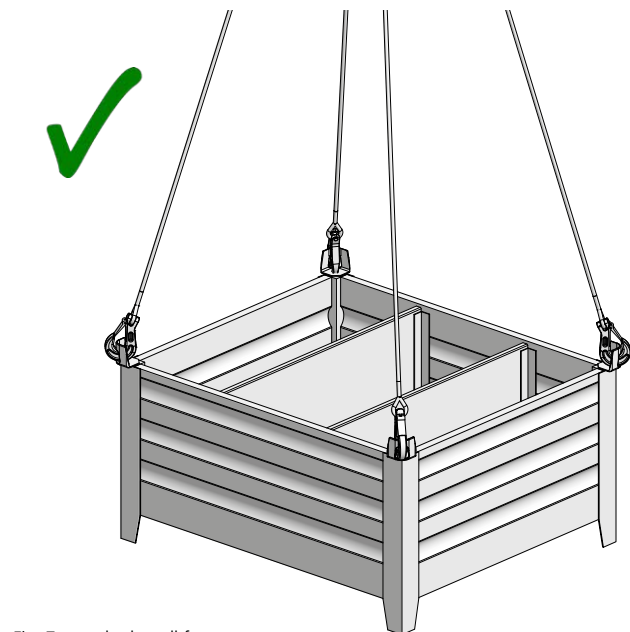
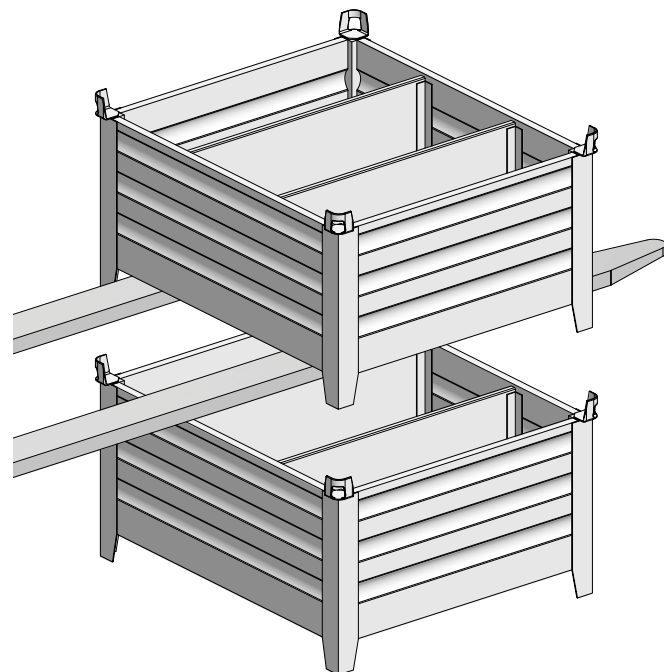

Fig. 7: attached to all four crane eyes
Fig. 8: Transport using a lift truck
The storage box 120/100 is used to store and transport assembly locks, anchoring material and other small items. The storage box 120/100 can be stacked (Fig. 2) and is equipped with a front flap (Fig. 3) on the long side as well as two removable partition walls (Fig. 4). The floor and walls are made of profiled sheet steel with reinforced edges. The storage box 120/100 can be relocated by crane (Fig. 7), forklift truck (Fig. 8) or lift truck.
- Transport using a forklift truck. The length of the forks must correspond to the dimensions of the storage box 120/100 (Fig. 8).
Attach the crane sling's load hook to the attachment eyelet (Fig. 5) on the storage box 120/100 so that it cannot slide out of the eyelet when a rope or chain is slack. All **four load hooks** must be attached at all times (Fig. 7).